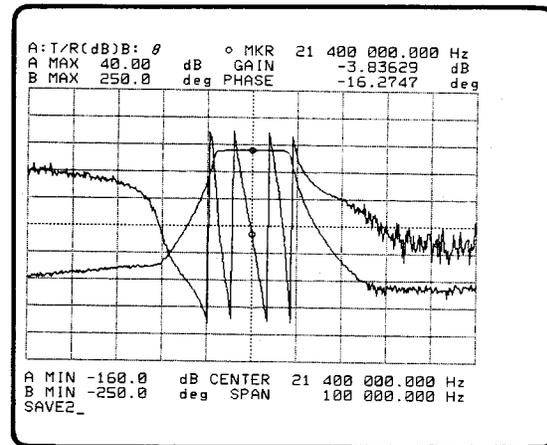

Figure 3-118. SAVE Command
2. Press the **SAVE** key and enter a register number (0 ~ 4), the "SAVE" command and the number are displayed in the Keyboard Input line on the screen as shown in Figure 3-118.